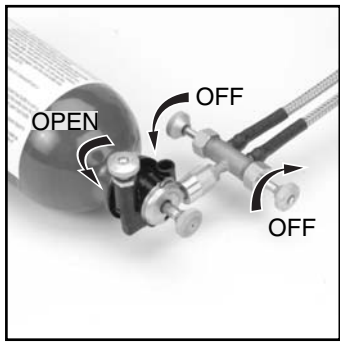

FIG. 25
- Make sure fuel bottle is lying level on its side with the **FUEL VALVE** up (Fig. 25).
- Make sure both **FUEL VALVES** to the burners are fully "**OFF**" and the **FUEL VALVE** on the fuel bottle is "**OPEN**" (Fig. 25).